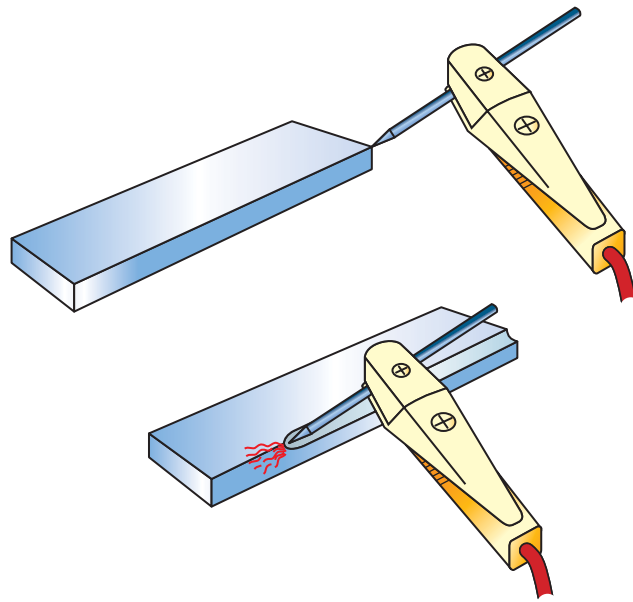

Figure 8.22 Air carbon arc J-groove gouging
8. Slowly bring the electrode down at about a 30° angle so that it will make contact with the plate near the starting edge, Figure 8.22.